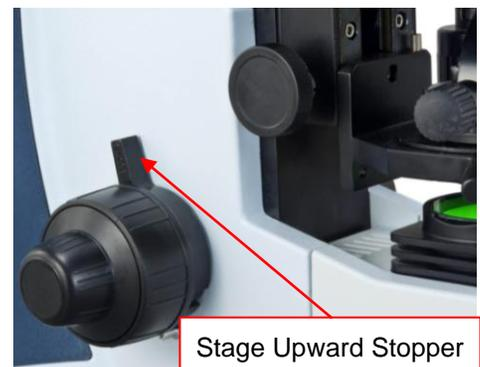

Fig.5
- c) To prevent your specimen slide from making contact with an objective, raise the stage to its highest position without contacting the 100X objective; then tighten the stage upward stopper (**Fig. 5**). Give the stage a tiny extra moving space to ensure the objective can be focused every time.